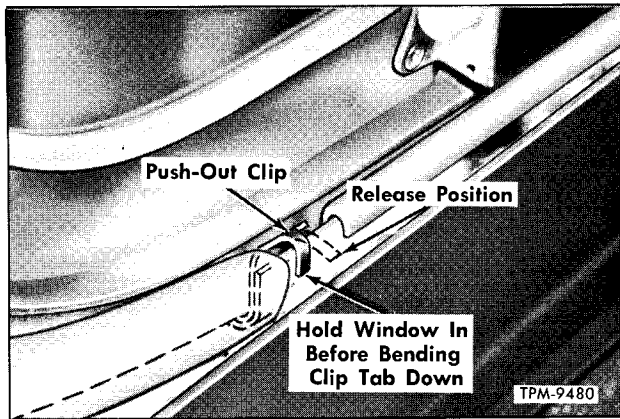
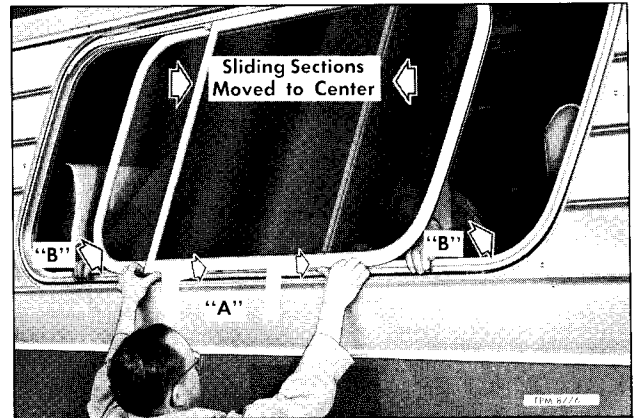

Figure 7—Emergency Escape Push-out Clip Installed
Figure 8—Installing Side Window Assembly
Window is retained in closed position by bent-down tangs of two push-out clips at bottom of windows (fig. 7). Clips of U-shape construction are inserted over channel rail of window and tangs of clips are then bent down over body panel flange when window is held in closed position.
3. Locate new push-out clips to bottom of window frame, then slide front and rear sections to center (fig. 8). Raise bottom of window at point "A," then let weight of window assembly rest on window opening sill (fig. 8). Inside of coach, at points "B," pull window inward evenly to retain window in completely closed position. While holding window in closed position have assistant bend tangs of push-out clips downward as shown in figure 7.